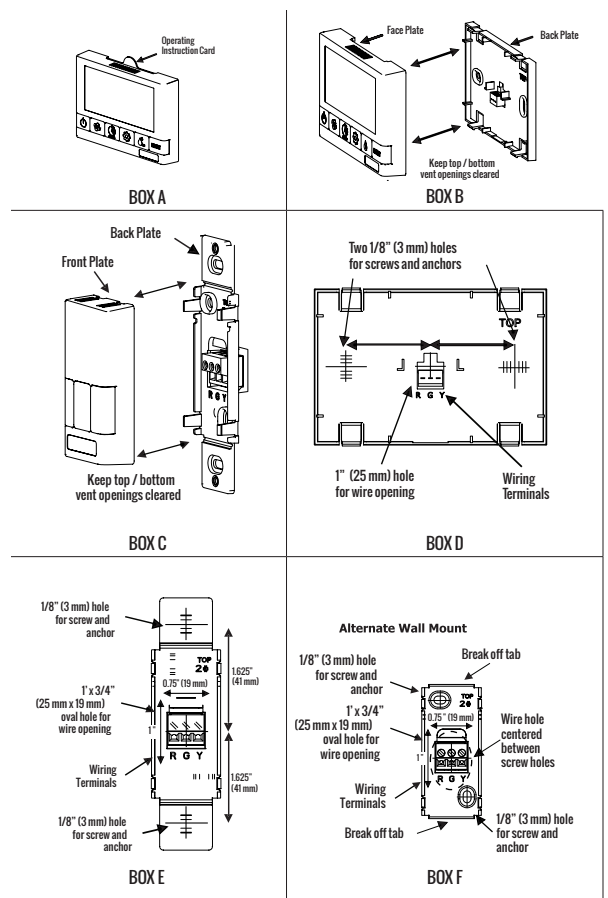

Figure 24. Installation of Controls
3. For the PrecisionSYNC Control, place the back plate of the control in the desired location on the wall and pencil mark the wall with the right and left screw holes (Figure 24, Box D).
4. For the Two-Speed Switch with Humidity Sensor (435245) and Two-Speed Switch with Intermittent Mode (435246), place the back plate of the control in the desired location on the wall and pencil mark the top and bottom screw holes (Figure 24, Boxes E or F). For mounting the control without a decorative plate, break off top and bottom tabs and refer to Figure 24, Box F for mounting.
5. Remove the back plate from the wall and mark the center hole for the wires in the middle of the screw holes. Refer to Figure 24, Boxes D, E or F for dimensions.
6. Drill (two) 1/8" (3 mm) holes for the screws and wall anchors (Figure 24, Boxes D, E or F). For the PrecisionSYNC Control, drill a one inch hole in the center (Figure 24, Box D). For the Two-Speed Switch with Humidity Sensor (435245) and Two-Speed Switch with Intermittent Mode (435246), cut in a 3/4" (19 mm) by 1" (25 mm) oval hole in the center (Figure 24, Boxes E or F).
8. Connect red, green, and yellow to the wiring terminals located on the back plate (Figure 24, Boxes D, E or F).
10. Attach the face plate to the back plate (Figure 24, Boxes B or C).
11. For the PrecisionSYNC Control (435244), insert the instructions card into the control (Figure 24, Box A).